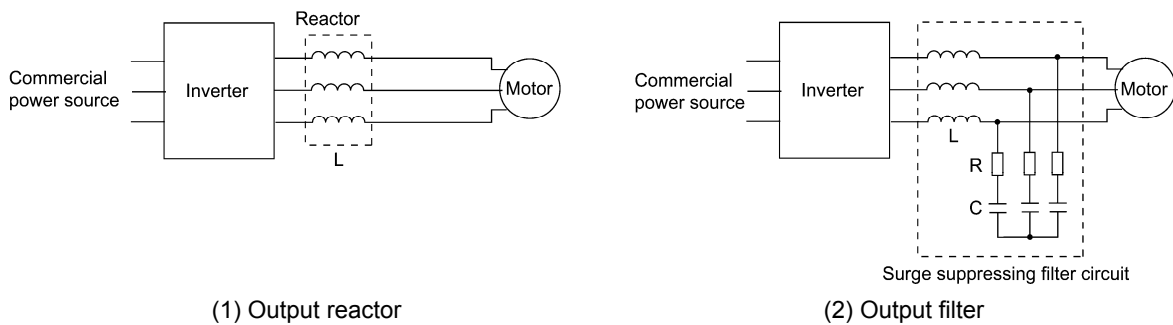

Figure C-5 Method to Suppress Surge Voltage
(1) Output reactor
If wiring length is relatively short, the surge voltages can be suppressed by reducing the voltage rise time (dv/dt) with the installation of an AC reactor on the output side of the inverter. (Refer to Figure C-5 (1).)
(2) Output filter
Installing a filter on the output side of the inverter allows a peak value of the motor terminal voltage to be reduced. (Refer to Figure C-5 (2).)